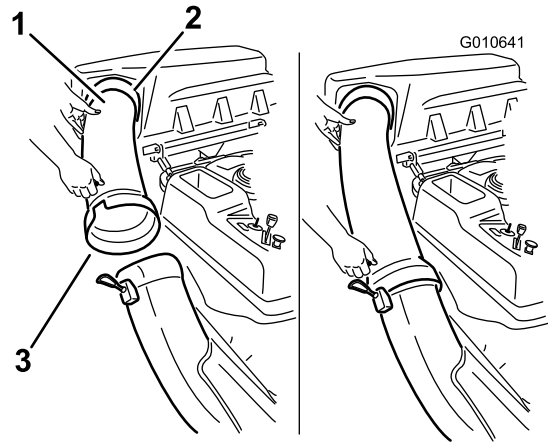

Figure 27
- Slide the curved end of the discharge tube into the opening in the bagger top (Figure 27).